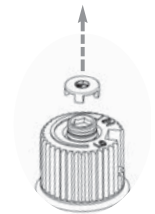

Fig.1
- 12) Remove the black protection cap by hand from the high-low knob (Fig.1).